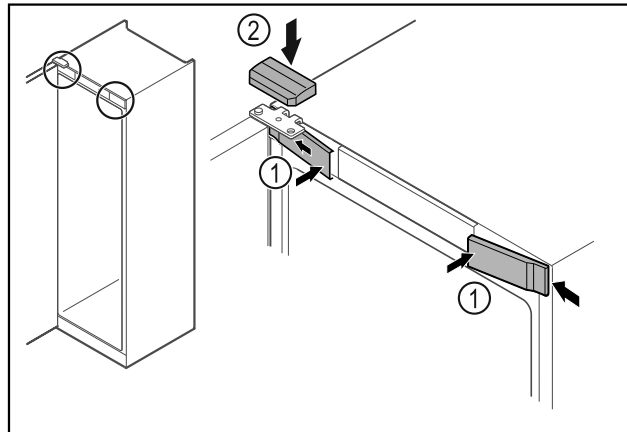

Fig. 49 \*
- ▶ Hook in the front covers Fig. 49 (1) on the side and snap them into place.\*
- ▶ Snap on the top cover Fig. 49 (2) from above.\*